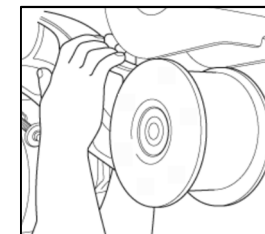
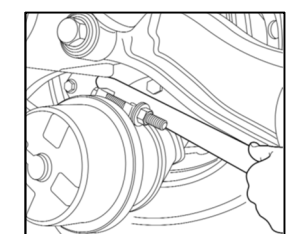

Fig. 5
Fig. 6
8. Carefully rotate the trailing arm until clear of the hanger bracket (Fig 5). DO NOT lever off the brake chamber as shown in Fig. 6.